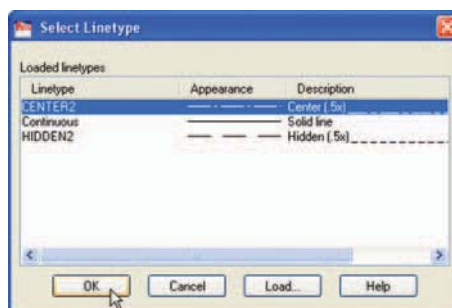

Fig. 4.18 The **Select Linetype** dialog
5. Click on the linetype **Continuous** against the layer name **Centre**. The **Select Linetype** dialog appears (Fig. 4.18). Click its **Load ...** button and from the **Load or Reload Linetypes** dialog double-click **CENTER2**. The dialog disappears and the name appears in the **Select Linetype** dialog. Click the **OK** button and the linetype **CENTER2** appears against the layer **Centre**.